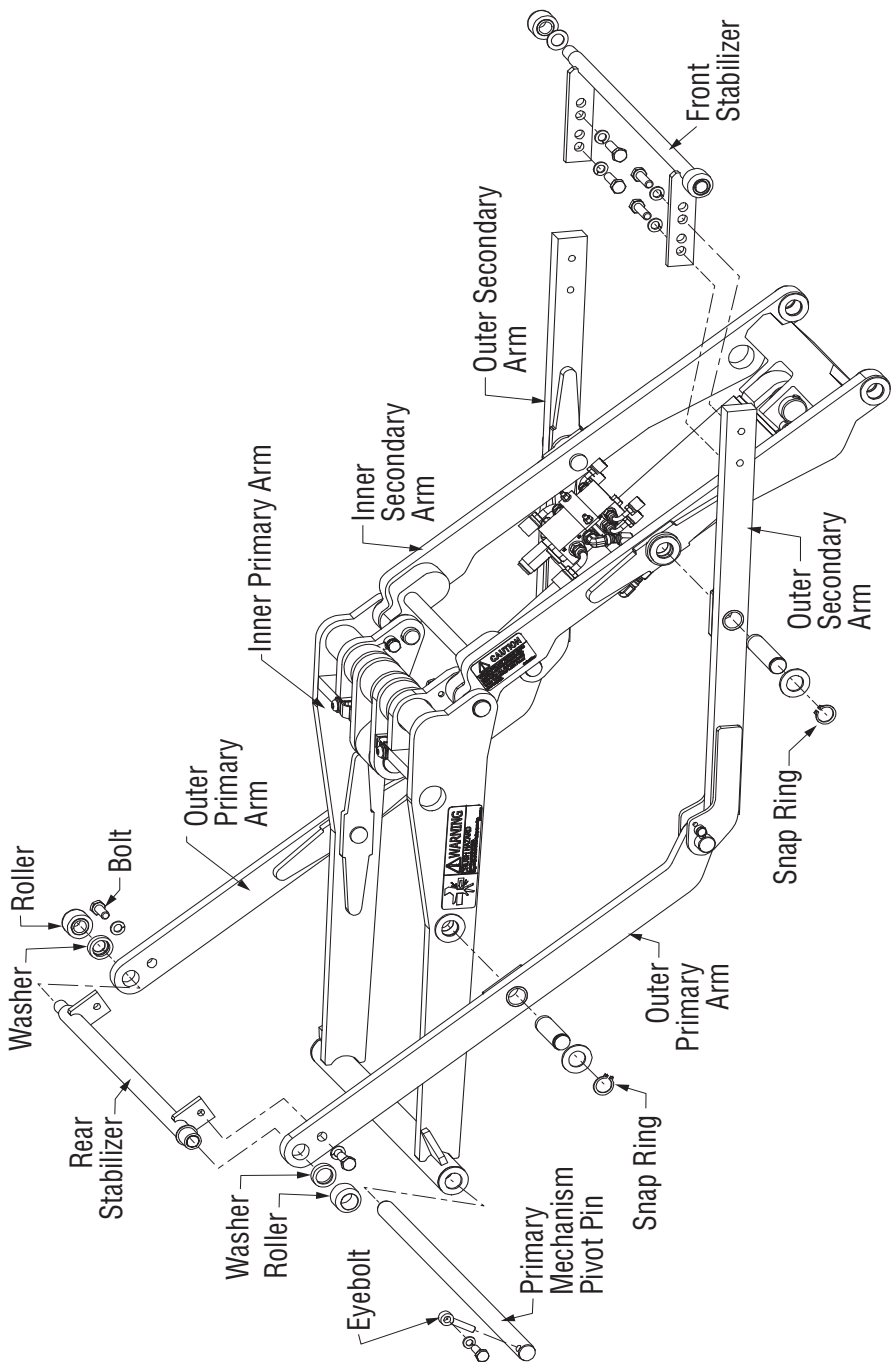

Figure 6-16, Mechanism Disassembly
3. Disassemble the mechanism. (Figure 6-16)